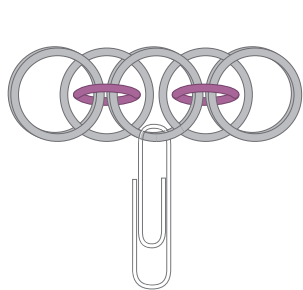

FIG. 1
2. Make a starting chain using 8 large jump rings and 2 small jump rings, following the instructions for Speed Weaving Parallel Chain Method C and substituting 1 small jump ring where the Parallel Chain instructions call for 2 (**FIG. 1**). Attach a starting aid to indicate the start of the weave.